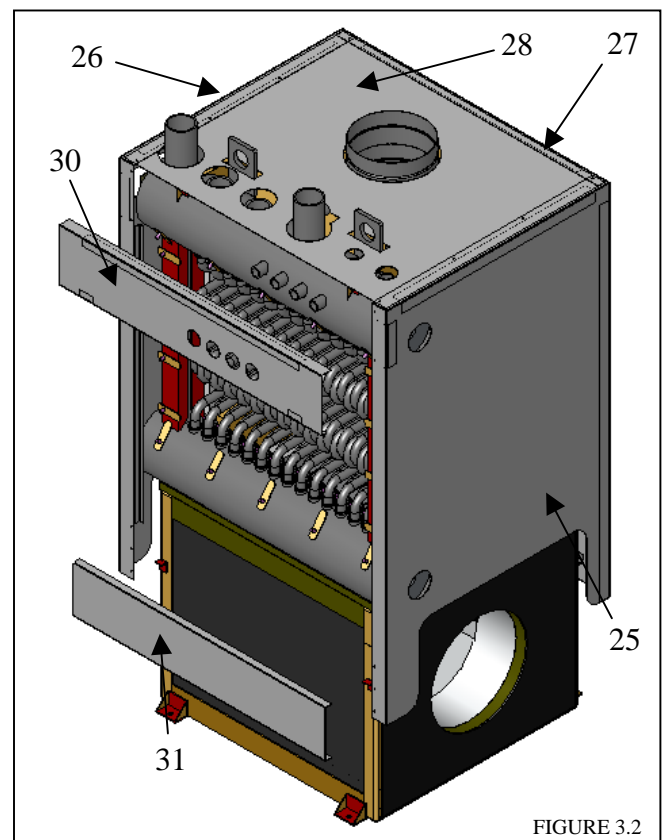

FIGURE 3.2
- 3.5 Place jacket front (Item #25) in place. Starting at the top right corner of jacket front, work the top and sidetracks into the jacket top (Item #28) and jacket side (Item #27) until jacket front is in place. See Fig. 3.2.
- 3.7 Position jacket door bar (Item #31) and screw to bottom corners of jacket front (Item #25) and jacket rear (Item #26). See Figure 3.2.